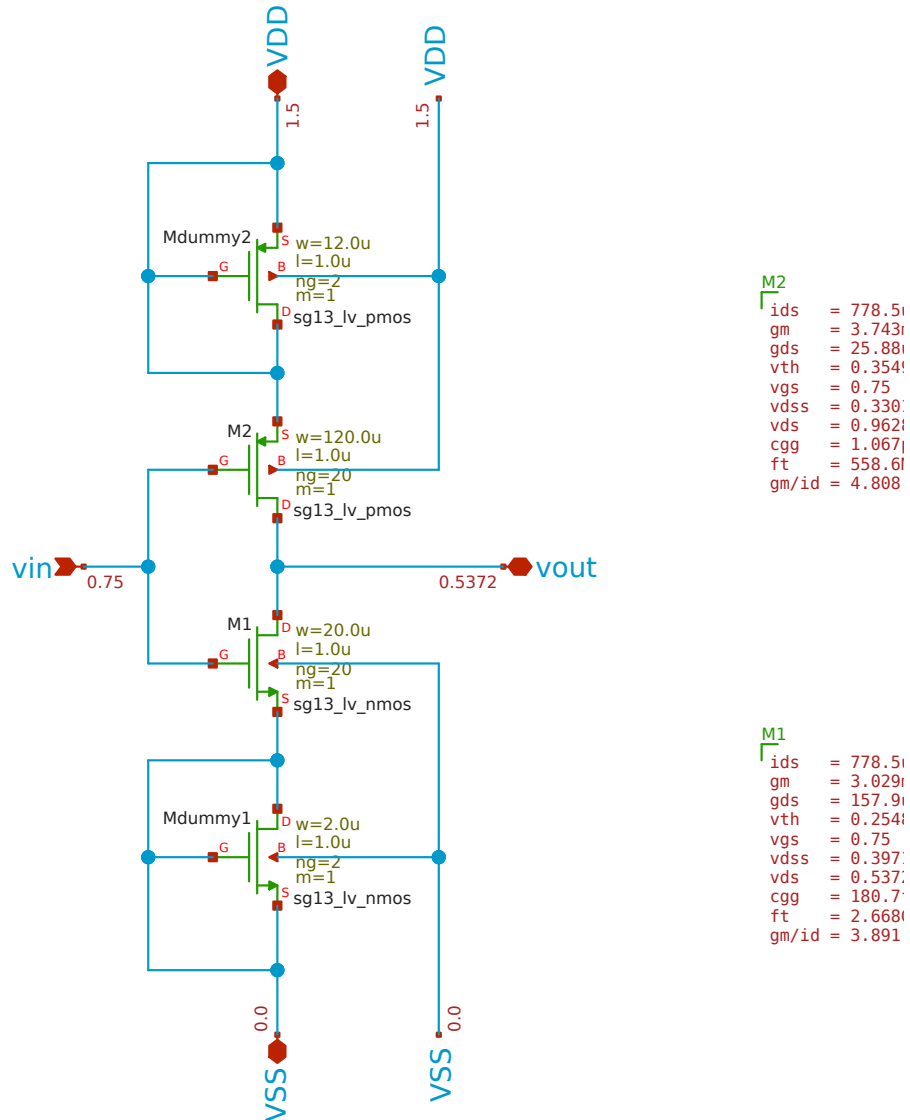

Figure 4: The finished **inverter** schematic in Xschem, with dummy transistors and operating-point annotations.
We now draw the schematic shown in Figure 4 step by step. The reference is inverter.sch.
6. **Annotate (optional).** Place `annotate_fet_params.sym` next to M_1 and M_2 and set `ref=M1` and `ref=M2`. After a simulation, these display the operating-point parameters of the devices directly in the schematic (as visible in Figure 4).